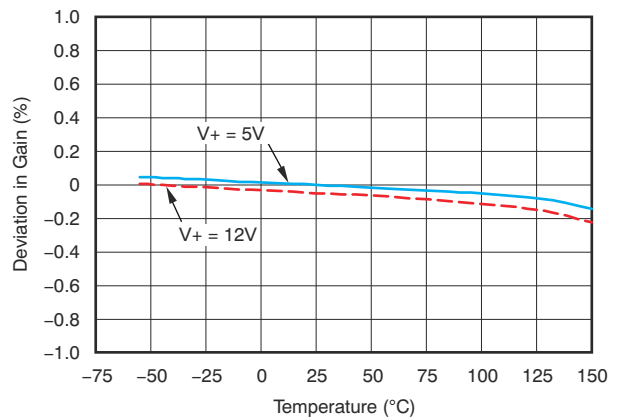

Figure 6-12. Deviation in Gain vs Temperature
- (6) See typical characteristic graph Figure 6-12.